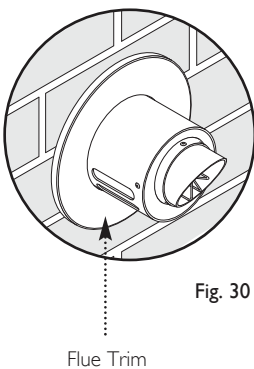

Fig. 30
12. The flue trim should be fitted once the installation is complete and the flue secure (Fig. 30). Apply a suitable mastic to the inside of the trim and press against the wall finish, making sure the brickwork is dust free and dry.